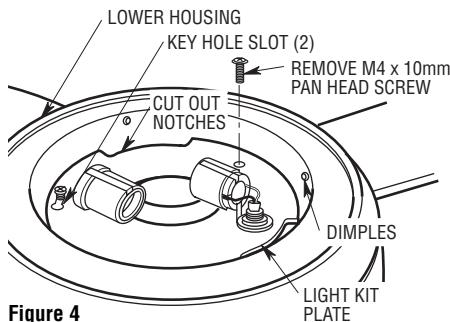

Figure 4
- 9. Tuck the wires and connectors into the fan housing. Position the light kit plate into the fan housing by placing the cut out notches over the fan housing dimples (Figure 4).
- 10. Attach the light kit plate assembly to the lower housing using two key slot holes (Figure 4). Secure the light kit plate assembly by tightening the two screws. Reinstall the screw that was previously removed.